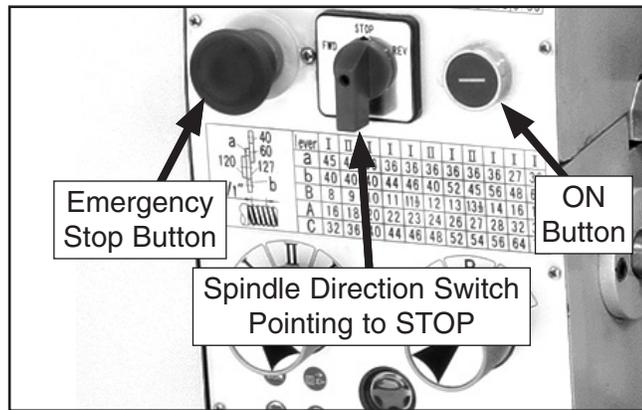

Figure 21. Headstock and gearbox controls.
1. Make sure the spindle direction switch (see **Figure 21**) is turned to STOP, and press the emergency STOP button.